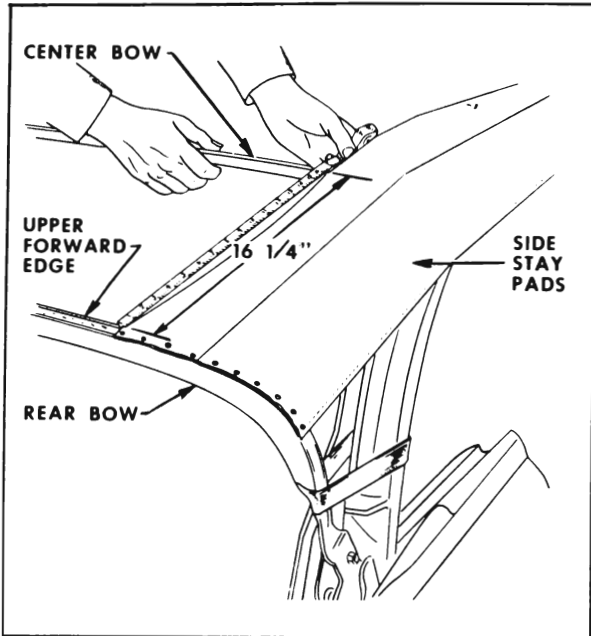

Figure 7-29—Position of Rear Bow
4. Trim selvage end of side stay pads just forward of rear rolled edge of rear roof bow (see Figure 7-29).
5. Distance from center of center bow to rolled forward upper edge of rear roof bow is 16-1/4" ( $\pm 1/4$ "). Readjust spacer sticks and side roof rail pads as required if rear bow does not come within this position range (see Figure 7-29).